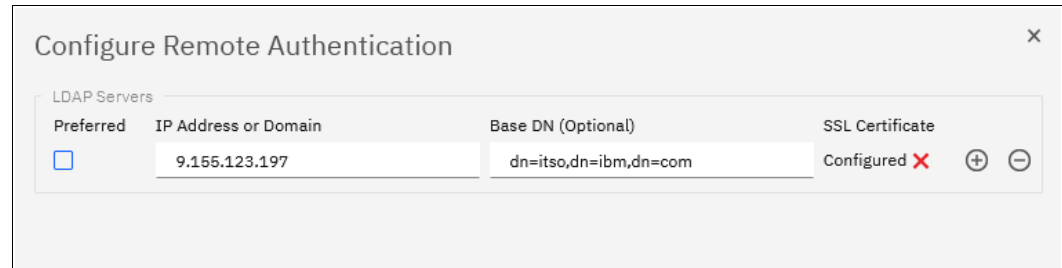

Figure 3-67 Configure Remote Authentication: Creating an LDAP server
3. Enter the server settings for one or more LDAP servers, as shown in Figure 3-67.